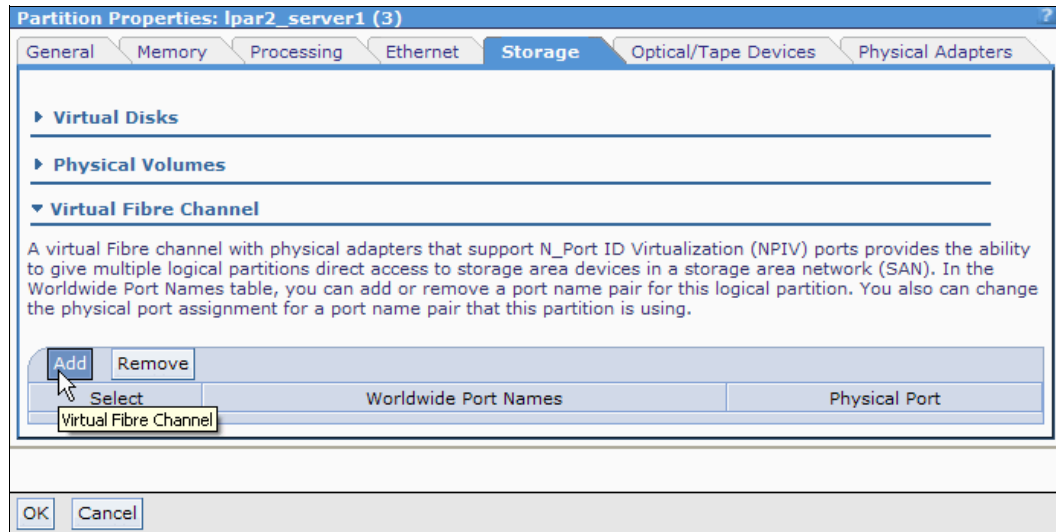

Figure 4-99 Storage tab
- Figure 4-99 shows the Storage tab. Expand the **Virtual Fibre Channel** menu and click **Add** to create a new virtual Fibre Channel adapter.